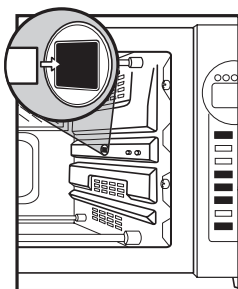

Figure 11
- Place the round pointed end of Rotisserie Bar into opening on the right side Oven Wall. Place the opposite end of the Rotisserie Bar into the Bracket on the left side Oven Wall. (See Figures 11 and 12.)